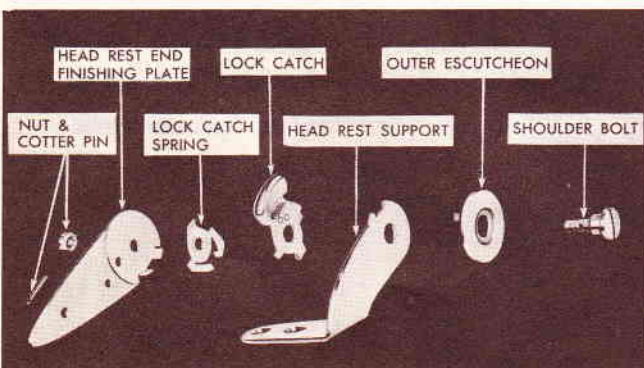

Fig. 6 Head Rest Outer Support and Lock Assembly
- Remove cotter pin and the nut which secures component parts of outer support and lock assembly and/or inner support assembly (See Figs. 6 and 7). Disassemble the entire assembly.
- To assemble reclining seat back head rest outer support and lock assembly and/or inner support assembly, reverse removal procedure. Assemble component parts in order shown on Figs. 6 or 7.